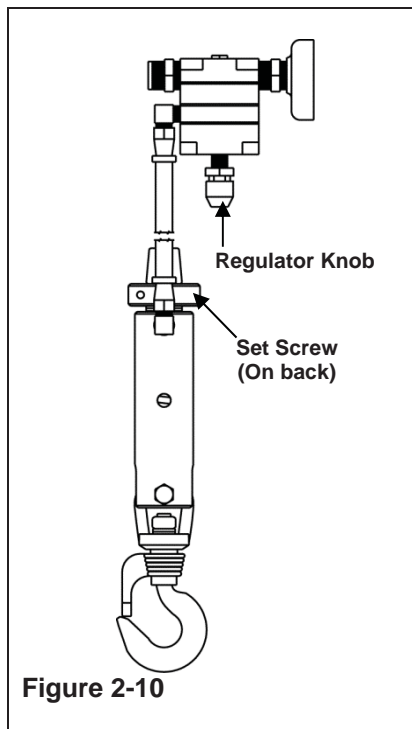

Figure 2-10
- Step 1. Deplete the relieving regulator by turning the knob counter-clock-wise until it stops. (See Figure 2-10)